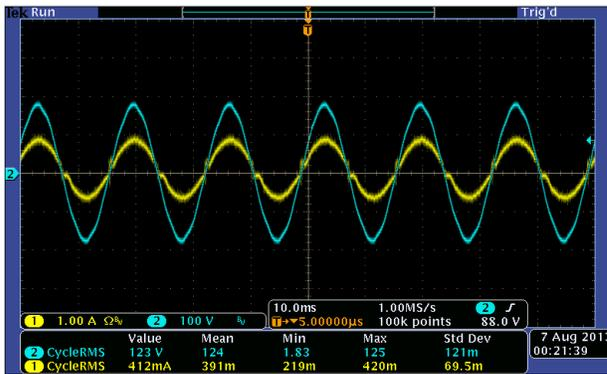

Figure 6. Output Volt and Current at 110-V, 60-Hz Grid Volt.
- Observe the voltage and current probes to see the AC output voltage and current waveforms (set the probe to **1 A/div**). When the input voltage is 35-V DC and the grid voltage is 120 V_{RMS}/60 Hz, the output waveforms should look like the ones shown in Figure 6.